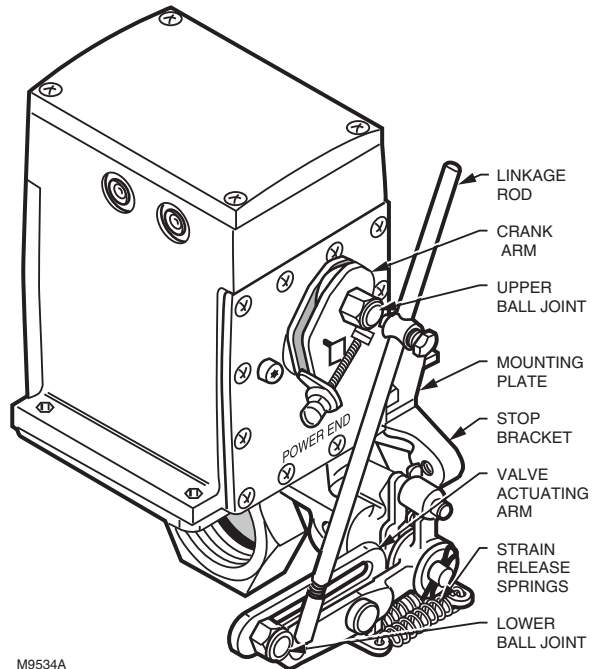

Fig. 9. Typical combination of V51E, Modutrol Motor, and Q100B Linkage Assembly.
Installing Modutrol Motor and Q100B Linkage on V51E (Fig. 9)
4. Install valve actuating arm as shown in Fig. 9, and adjust as desired.
3. Insert the flat head screws supplied with the linkage assembly through plate, spacers, and stop bracket and into each hex. Tighten securely. The spacers prevent contact of adapter plate and stop bracket. See Fig. 9.
Modutrol Motor with Q100B Linkage and V51E (Fig. 9)